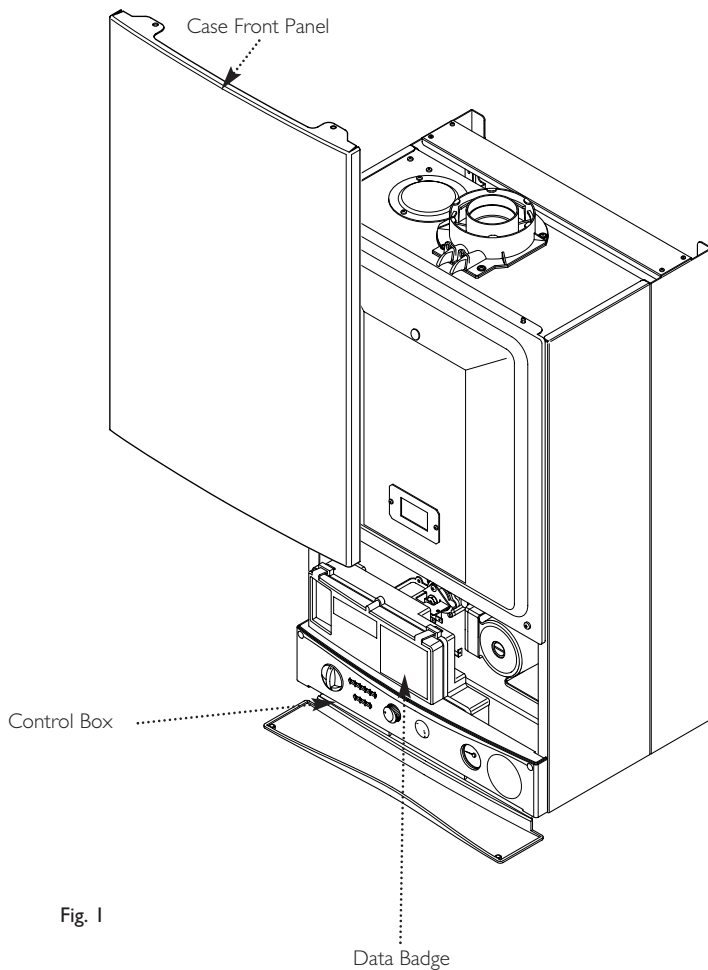

Fig. 1
5. The boiler data badge gives details of the model, serial number and Gas Council number and is situated on the control box. It is visible when the case front panel is removed (Fig. 1).